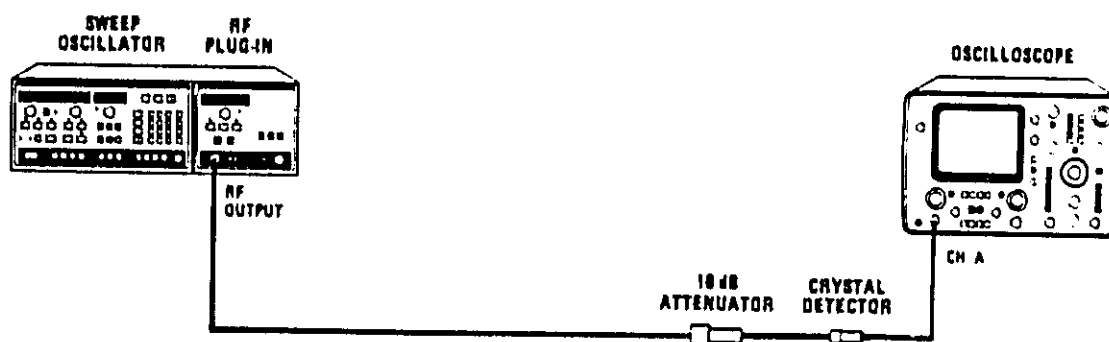

Figure 5-33. Squarewave Symmetry Adjustment Setup
1. Connect the equipment as shown in Figure 5-33, with A4 on an extender board. On the HP 8350A/B, press [INSTR PRESET] [CW] [L MOD]. Set the RF power level to 0 dBm and allow the equipment to warm up for one hour.